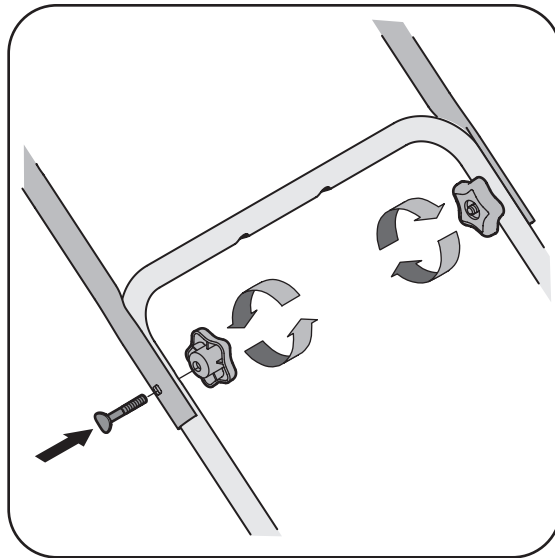

Figure 3-5: Attach the upper handle to the lower handle.
2. Secure the upper handle to the lower handle using the carriage bolts and star knobs, Figure 3-5. Make sure that the carriage bolt heads go on the outside of the handle.